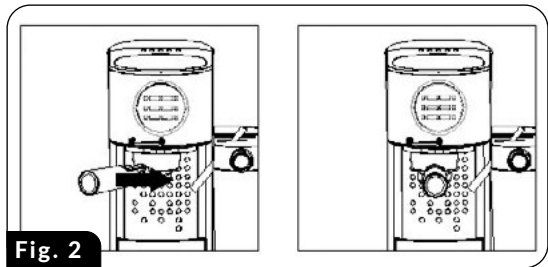

Fig. 2
- Place the portafilter (10) with the filter basket (13) inside the portafilter mounting space (5) so that the portafilter handle (12) aligns with the open lock symbol on the frontal panel of the espresso machine (Fig. 2).
- Gently turn the portafilter handle (12) to the right so that it aligns with the closed lock symbol on the frontal panel of the espresso machine.
- Detaching the portafilter and removing the filter basket is done in the reverse order, i.e., gently turn the portafilter handle (12) to the left, remove the portafilter (10) from the portafilter mounting space (5) and remove the filter basket by turning to release it.